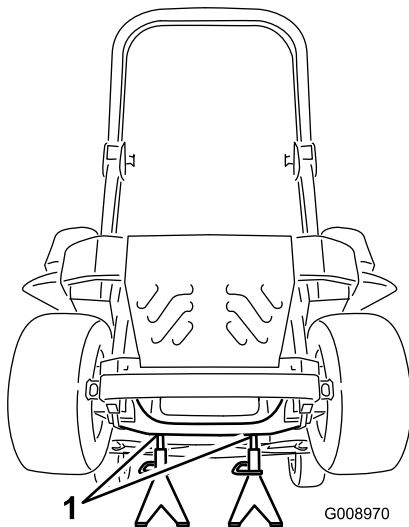

Figure 89
3. Raise the machine and support it with jack stands (Figure 89).
9. Remove the jack stands and lower the machine (Figure 89).